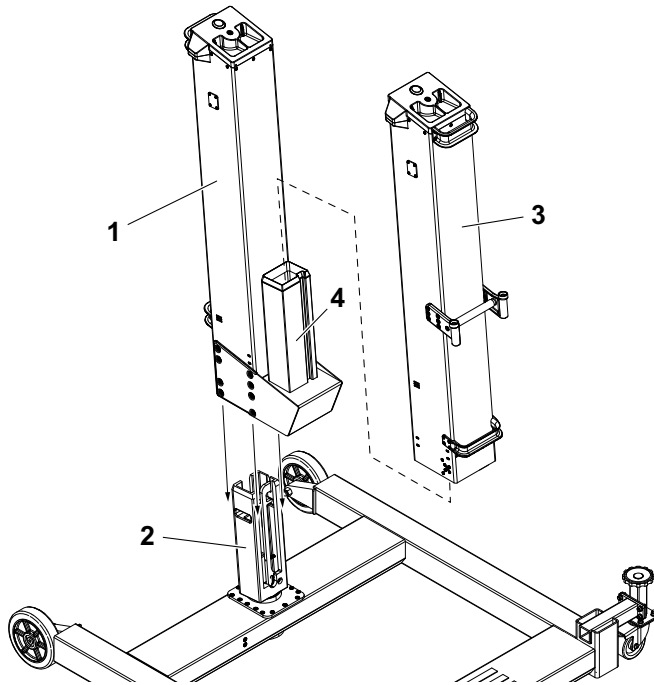

Figure 3-9. Mast to Base/Mount Installation (FT140)
FT140 - (See Figure 3-9.) Install the FT140 mast assembly (1) to the base FT140 mast mount (stump) (2). Then install the FT70 mast assembly (3) onto the FT70 mast mount (stump) (4) located on the FT140 mast assembly (1).